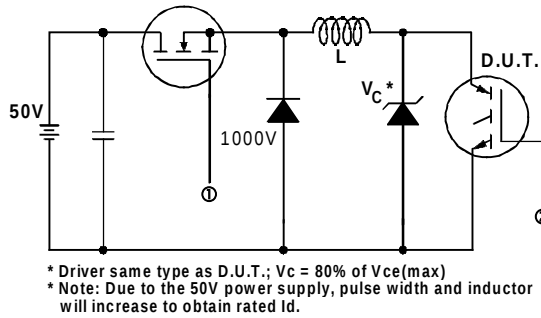

Fig. 13a - Clamped Inductive Load Test Circuit
- ② $V_{CC} = 80\%(V_{CES})$, $V_{GE} = 20V$, $L = 10\mu H$, $R_G = 5.0\Omega$, (See fig. 13a)
- ③ Repetitive rating; pulse width limited by maximum junction temperature
- ④ Pulse width $\leq 80\mu s$; duty factor $\leq 0.1\%$
- ⑤ Pulse width $5.0\mu s$, single shot